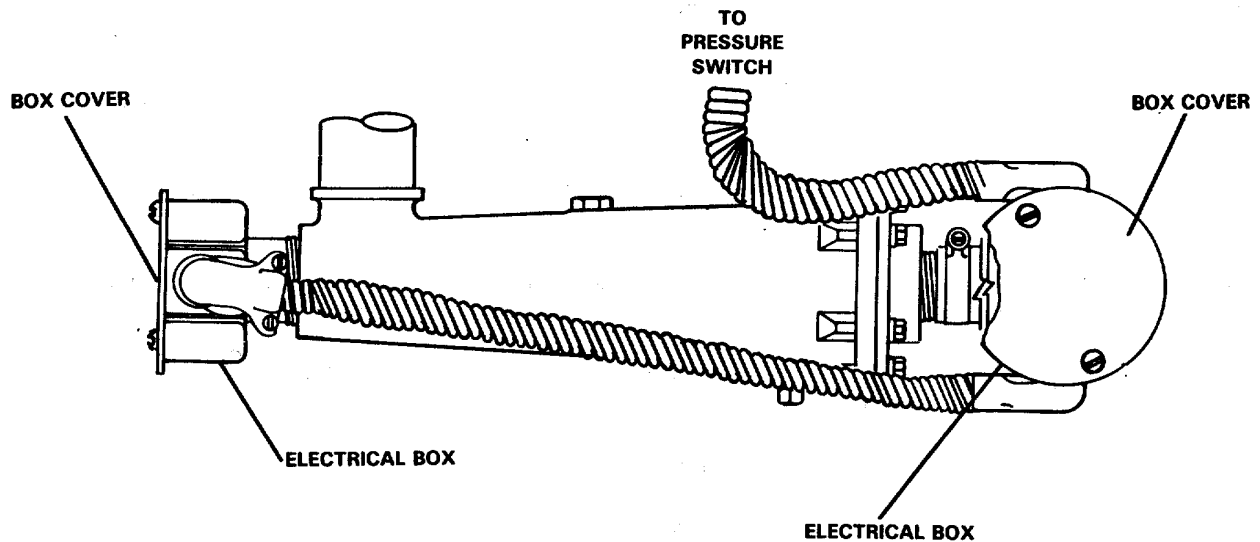

Figure 2-20. Location of Electrical Boxes.
The electrical boxes and cabling are removed with the engine coolant heater (28). Figure 2-20 shows location of electrical boxes for reference only.
- i. Tag and disconnect electrical wiring from pressure switch (9).
- j. Remove hexagon head capscrews (10), lockwashers (11), and plain hexagon nuts (12) securing pressure switch (9) to angle bracket (27).
- k. Remove pressure switch (9).
- l. Remove four hexagon head capscrews (22), lockwashers (21), and plain hexagon nuts (20) securing engine coolant heater (28) to angle bracket (27).
- m. Remove engine coolant heater (28).
- n. Remove pipe-to-hose elbow (29) and straight pipe-to-hose adapter (19) from engine coolant heater (28).